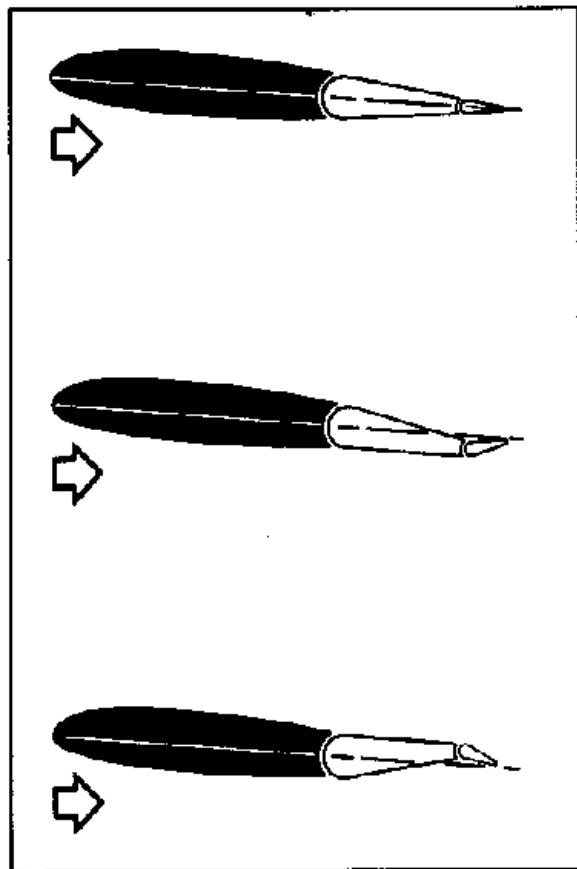

Figure 2.2. Trim Tabs—Aids to Smooth Flying.
2.5.1. The trim tabs act as levers and equalize the pressures exerted on either side of the parent control surface. To equalize pressures, the tabs are moved in an opposite direction from the parent control (figure 2.2). If the rudder is not trimmed properly, the aircraft will fly in a skid as indicated